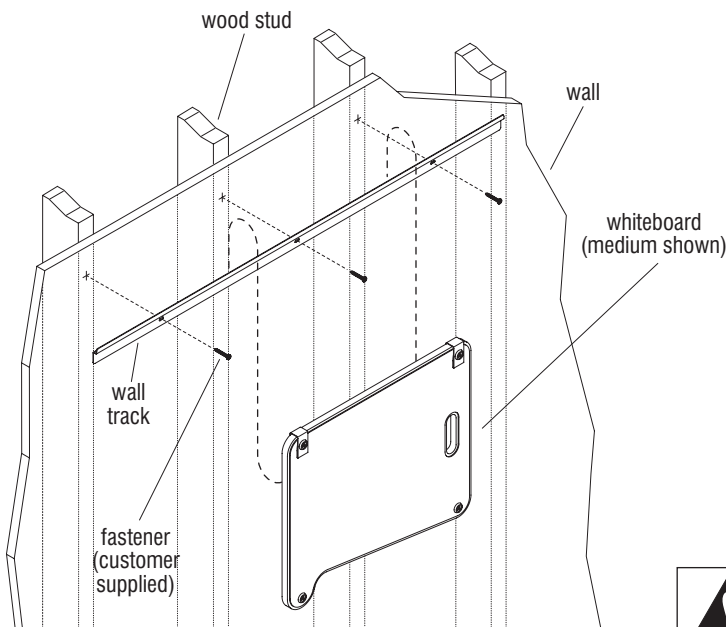

Figure 1
1. Use a stud-locator to determine wall stud locations at the installation site, then hold the wall track up to the wall at the desired location. Use a spirit level under the wall track to assure that it is straight, then make a mark to the wall through each mounting hole location in the track. Move the wall track aside and check with the spirit level to assure that the holes marked on the wall are level (Figure 1).
2. Carefully bore a $\frac{1}{8}$ " diameter pilot hole through the drywall and into the stud at all marked mounting locations (Figure 1 & Detail A).
3. Align the mounting holes of the wall track with the pilot holes in the wall. Use a spirit level again to assure the it is straight, then secure the wall track to the wall using #8 x 1" sheet metal screws with #8 washers, or #10 x 1" sheet metal screws with no washers (Figure 1).